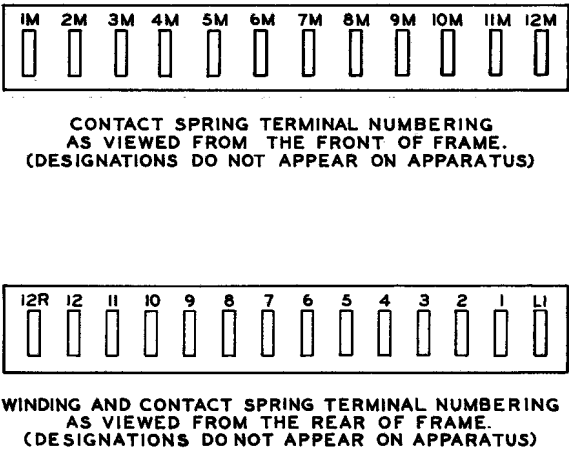

Fig. 64 – Winding and Spring Terminal Numbering — 290-Type Relay
**2.75** As viewed from the front of the frame, the armature spring terminals are designated 1M to 12M starting at the left as shown in the upper part of Fig. 64. As viewed from the rear of the frame, the winding terminal at the extreme left is designated 12R and the winding terminal at the extreme right L1. The contact spring terminals between the two winding terminals are designated 1 to 12 starting at the right.